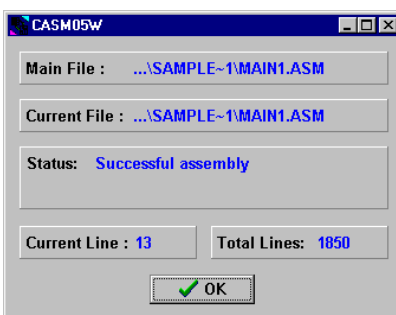

Figure 8-1. CASM05W Window
6. The CASM05W window displays during assembly, showing the files and progress of the assembler in the Status area. When assembly completes successfully, the assembler window appears like the one shown in Figure 8-1.